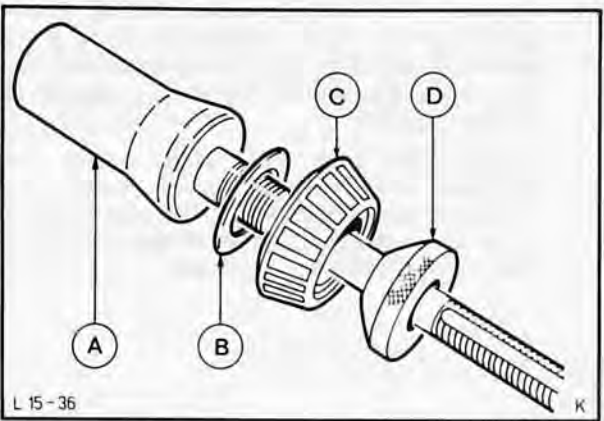

Fig. 41. Master pinion 15-020
23. Remove master pinion and take off taper roller bearing and shim, Fig. 41. Establish new shim from measurement. Measure shim with micrometer to match value determined (see Parts Catalogue for shim part numbers).